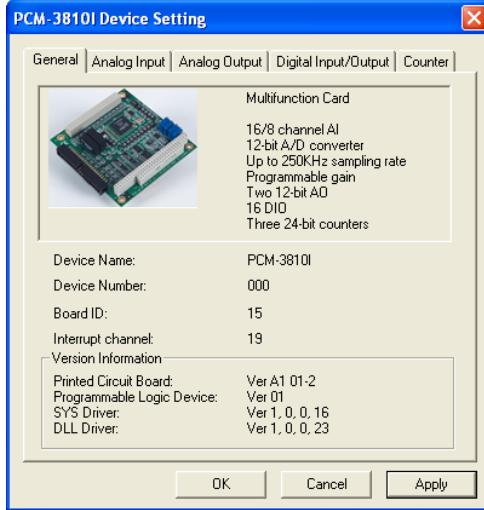
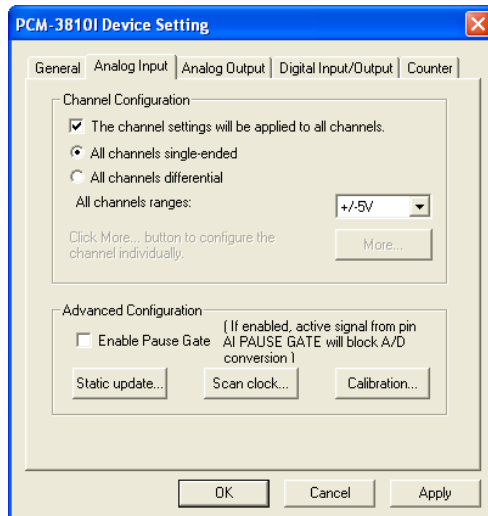
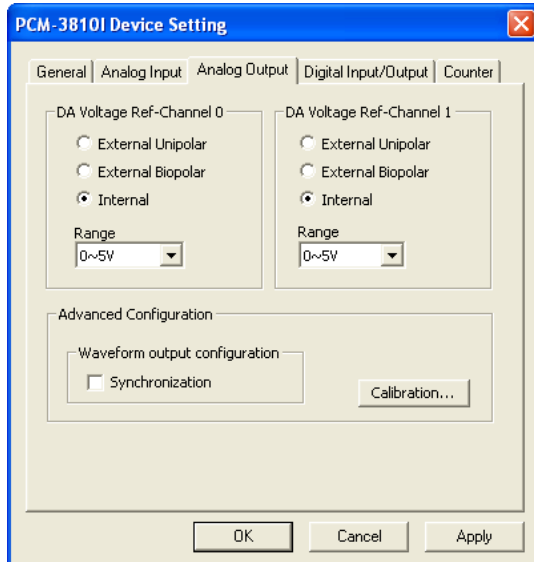
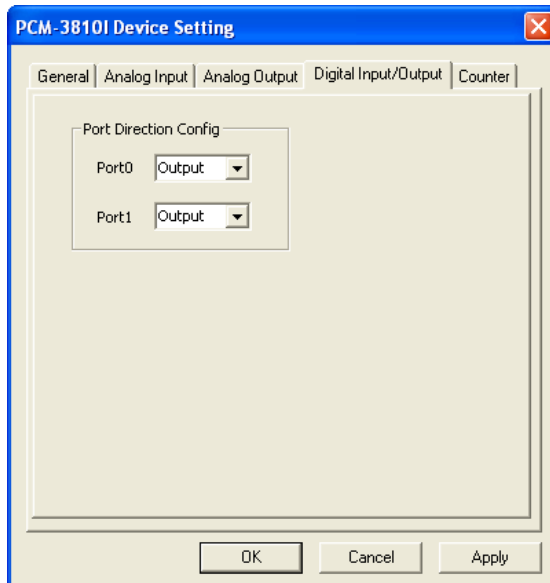

Figure 2.4: The Device Setting Dialog Box
Figure 2.5: Analog Input Configuration
Figure 2.6: Analog Output Configuration
Figure 2.7: Digital Input/Output Configuration
3. Please click the Setup button to configure your device. On the *Device Setting* dialog box (Fig. 2-4), you can configure the Analog Input (Fig. 2-5), Analog Output (Fig. 2-6) and Digital Input/Output (Fig. 2-7) of PCM-3810I.